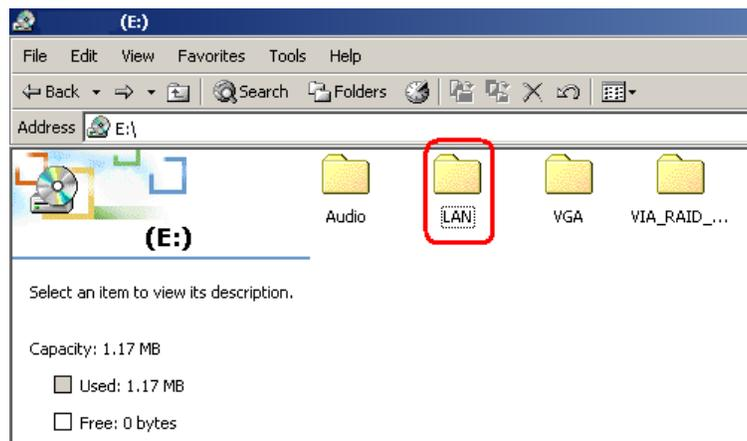

Figure 6-23: Access the LAN Folder
Step 3: Open the **LAN** folder. See **Figure 6-23**.